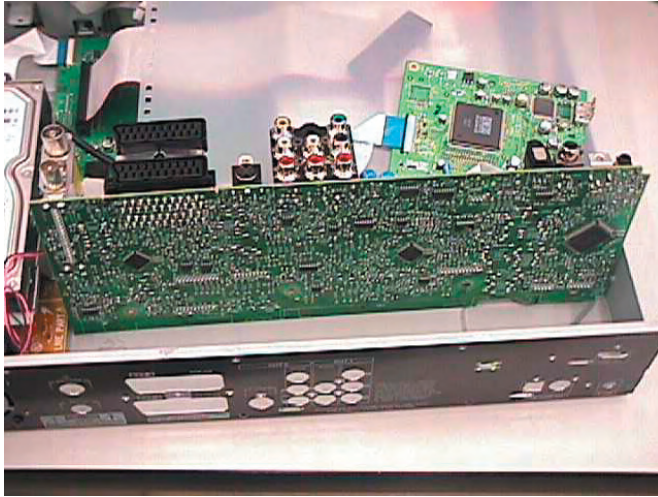

Figure 4-16: Analog Board Service Position
- 5) Service position is achieved by placing the Analog Board in the vertical position as shown in Figure 4-16.